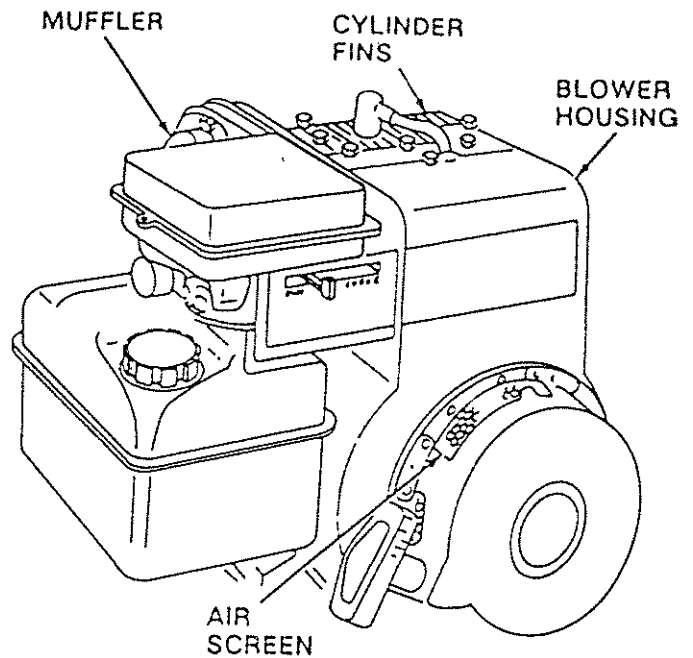

FIGURE 20
- Clean Air Screen (Fig. 20) frequently using a stiff bristled brush.
- Remove Blower Housing (Fig. 20) and clean as necessary.
- Keep Cylinder Fins (Fig. 20) free of dirt and chaff.
Do not operate Tiller without muffler (Fig. 20). Do not tamper with exhaust system. Damaged Mufflers or Spark Arresters could create a fire hazard. Inspect periodically and replace if necessary. If your Engine is equipped with a Spark Arrester Screen Assembly, remove every 50 Hours for cleaning and inspection. Replace if damaged.
- d. Clean entire Tiller, especially Cylinder Fins, Blower Housing and Air Screen. Tighten all bolts and nuts (Fig. 20, pg. 13).